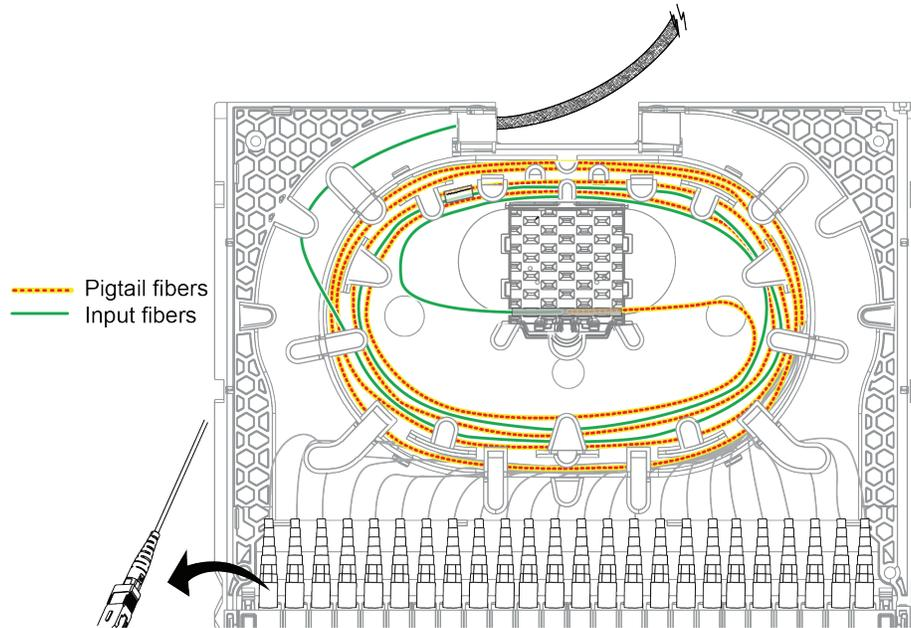

Figure 68
**Step 5:** Remove each connector in turn (Figure 68) and clean the connector end face and the adapter, if necessary, per standard company practices or as described in Section 9.